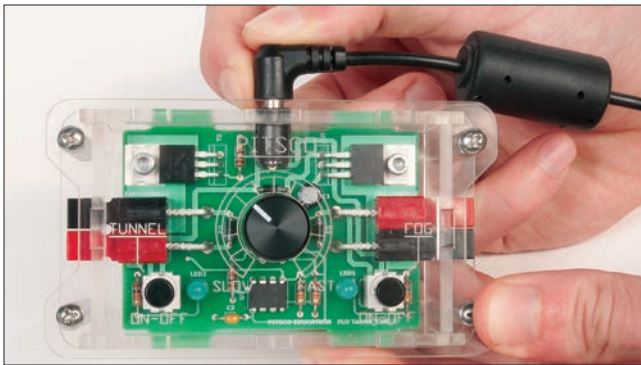

Figure 4
1. Plug the 12 V power supply into the control box (Figure 4).